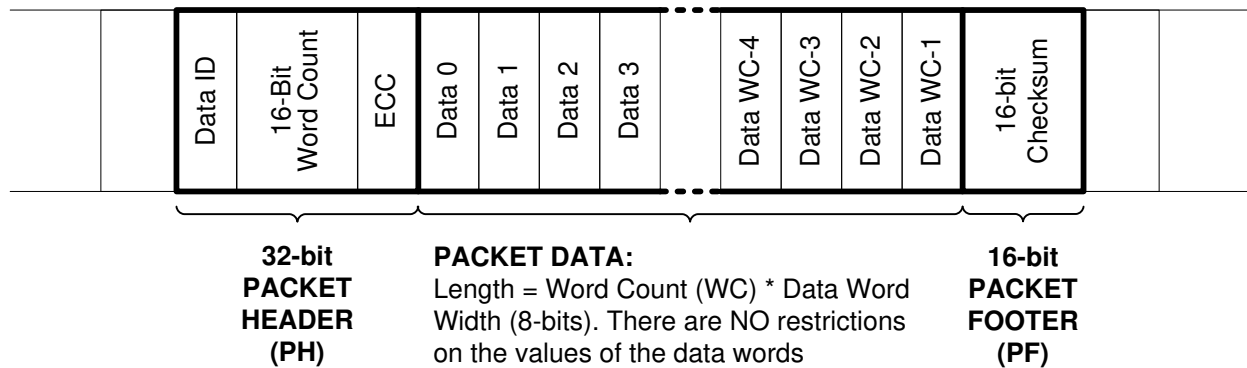

图 7-3. CSI-2 Long Packet Structure
A long packet consists of three elements: a 32-bit packet header (PH), an application-specific data payload with a variable number of 8-bit data words, and a 16-bit packet footer (PF). The packet header is further composed of three elements: an 8-bit data identifier, a 16-bit word count field, and an 8-bit ECC. The packet footer only has one element—a 16-bit checksum. 图 7-3 shows the structure of a long packet.